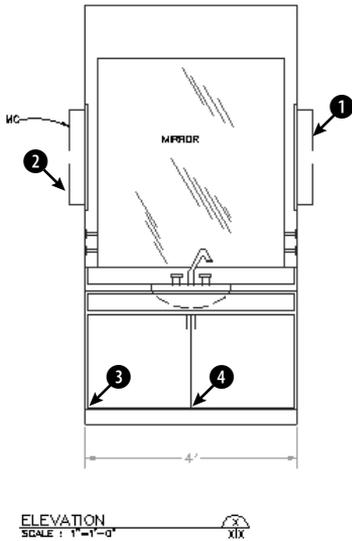
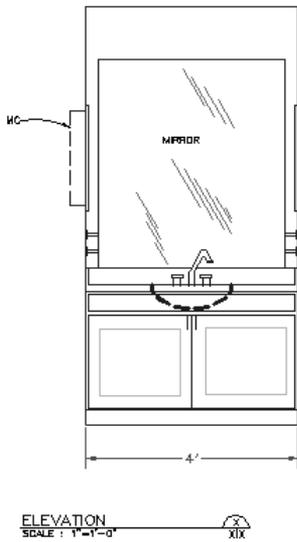

Figure 11-21: A lavatory cabinet.
Figure 11-22: The finished cabinet.
2. Save the file as `ab11-04.dwg` in your AutoCAD Bible folder. This is an elevation view of a lavatory cabinet, shown in Figure 11-21.
5. Pick the lines at ❶ and ❷ in Figure 11-21. Click the Linetype Control drop-down list and choose the Hidden linetype. Press Esc so that the hidden lines are no longer selected.
8. Start the RECTANG command. Draw a rectangle inside the left cabinet. Use the COPY command to copy the rectangle to the right cabinet. (To copy, use an intersection object snap at point ❸ as the base point and ❹ as the second point of displacement.) The rectangles are drawn in Cyan.
9. Save your drawing. It should look like Figure 11-22.